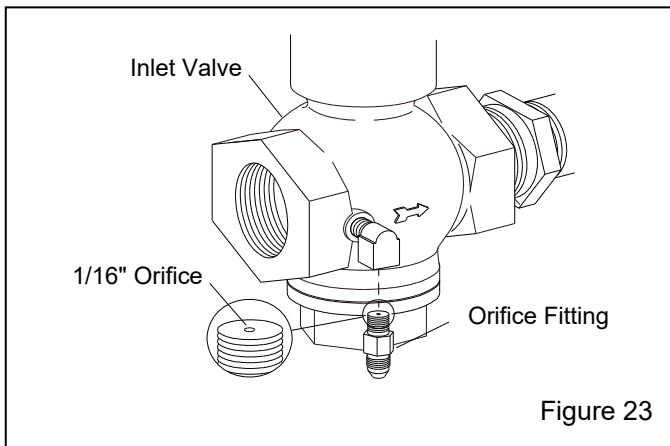

Figure 23
6.1.4 With the control lever up, check for air escaping through the opening under the lever. If no air is escaping, the orifice fitting on the inlet valve (refer to Figure 23) is blocked, or the outbound line from the orifice to the control handle is blocked and must be cleared.
6.2.7 Inspect the orifice fitting on inlet valve (refer to Figure 23) and make sure it has not been switched for a fitting with a full-flow orifice. The orifice on the 1/8" NPT end of the fitting must be 1/16" diameter.